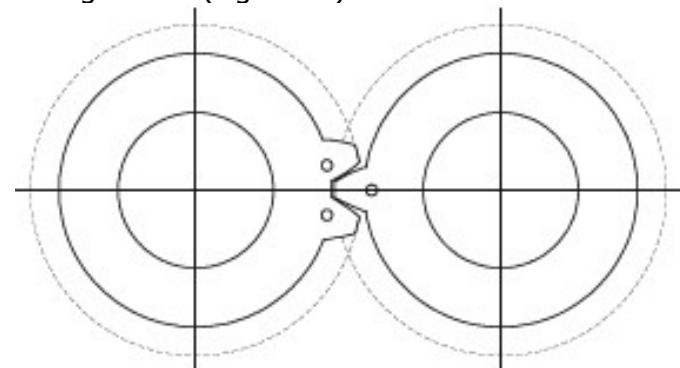

Figure 36 - Gear timing marks
NOTE: when fitting the second gear, align gear timing marks. (Figure 36)
- Once bearing nuts are to the correct torque in Table 8 repeat the stages in the 7 bullet points above to fit the gear drive keys (28), gears (6), tab washers (7) and gear nuts (8). Ensure that the timing marks (Figure 36) are aligned.